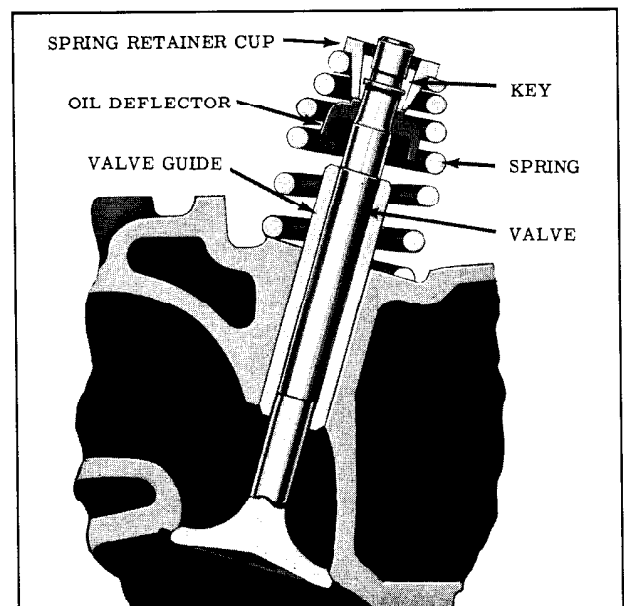

Fig. 8-7 Valve Assembly
keys, spring retainer cup and spring. (Fig. 8-7)
4. Remove valve spring retainer cups and springs. (Fig. 8-7) Keep all parts grouped so they can be installed on their original valves.